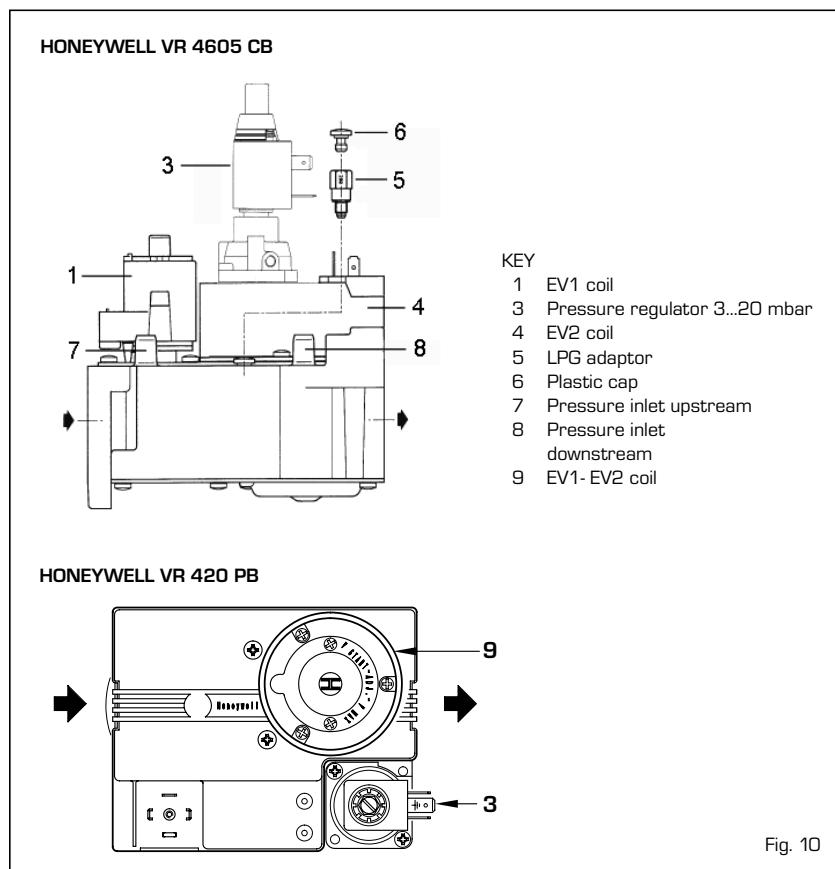

Fig. 10
4.1 GAS VALVE (fig. 10)
When the boiler is ignited the first time, it is always recommended to bleed the piping by using the pressure outlet upstream from the valve (7 fig. 10 - 9 fig. 2).
To convert to butane gas (G30) or propane gas (G31), the main nozzles must be replaced with another supplied in the boiler gas conversion kit, pressure regulator [3...20 mbar] with pressure regulator [4...37 mbar] and apply the LPG adaptor code 6248303 onto the gas valve (5 fig. 10) for